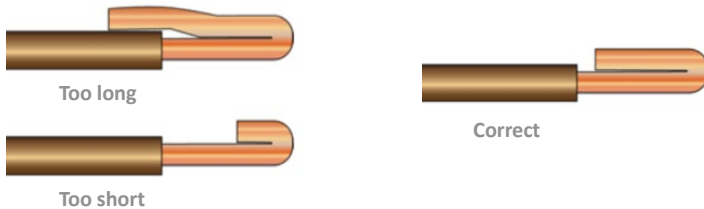

Fig 8. Correct and incorrect doubling over of a conductor
- Where fitting one conductor only, double over the conductors of cross-sectional area 2.5 mm² or less in order to better fill the terminal (*Figs 8 and 9*) – circuit-breaker and RCBO terminals typically have a capacity to accommodate conductors of up to 16 mm² cross-sectional area.